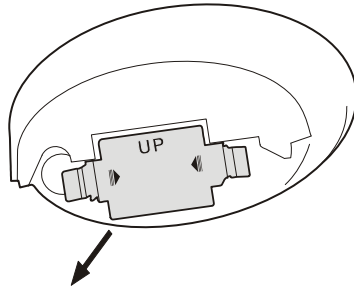

Fig. 6
1. Press the “key” on the battery cover in the direction of the arrow, pull out the battery cover.(Fig 6)
2. Insert the 6 x AA batteries into the compartment as indicated by the polarity symbols marked inside the compartment. (Fig 6)